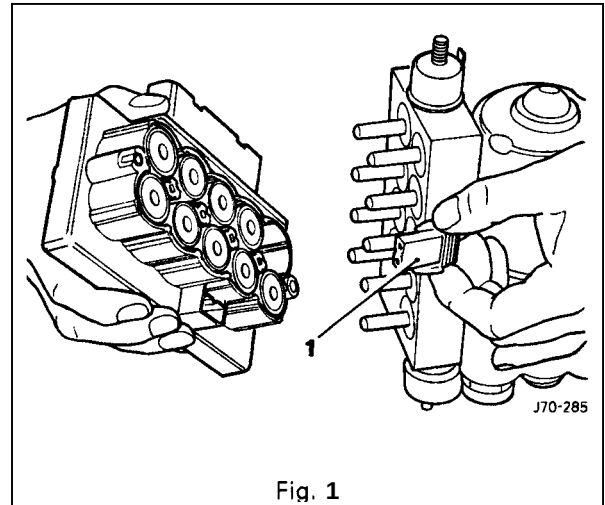

Fig. 1
- Disconnect the pump electric motor to ABS / TC CM multi-plug (**1 Fig 1**).